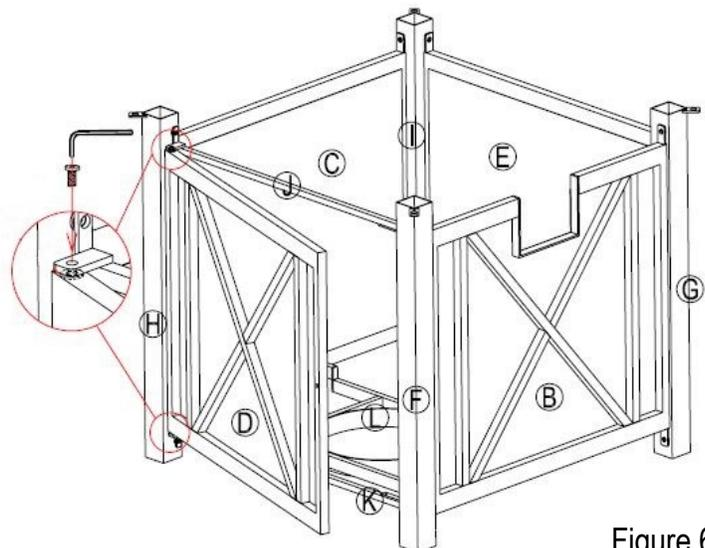

Figure 6
6. Attach the Door (D) to the Upper Beam (J) and the Bottom Beam (K) with Bolt (AA) and Washer (BB) by using the Hex Screw Driver (CC), (see Figure 6).